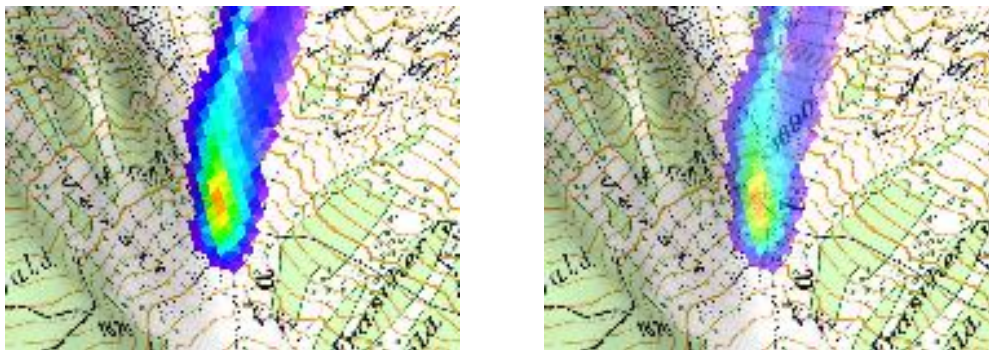

Figure 5.7: No transparency (left) and 40% transparency (right) of simulation result.
The display tab (B) shows parameters that are important for the display (colors, transparency) of results and polygon shapefiles. The min and max values as well as the number of colors influence directly the colorbar and the visualization. The transparency of the simulation results can be changed on the avalanche-display-panel. 0% means no transparency, 100% means total transparency, see figure below (fig. 5.7). The colorbar is divided into n (nr. of colors) different colors, where the lowest color is normally not displayed. The bottom line informs the user of the range of values that are not displayed in the current visualization (only in output mode).